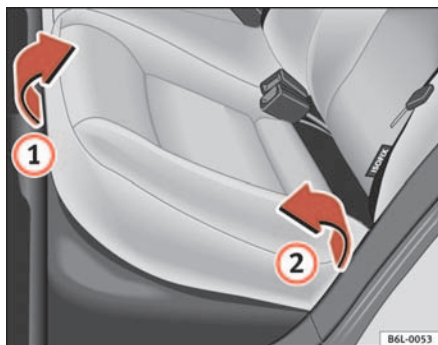
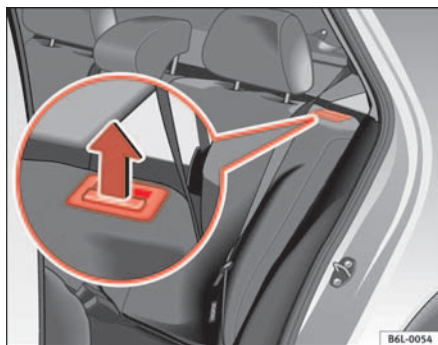

Fig. 73 Folding up the rear seat cushion
Fig. 74 Button for unlocking the rear backrest
- Pull the front edge of the seat cushion ⇒ fig. 73 ① upwards in the direction of the arrow.
- Lift the cushion ② forwards in the direction of the arrow.
- Pull the release button ⇒ fig. 74 in the direction of the arrow and fold the backrest forwards